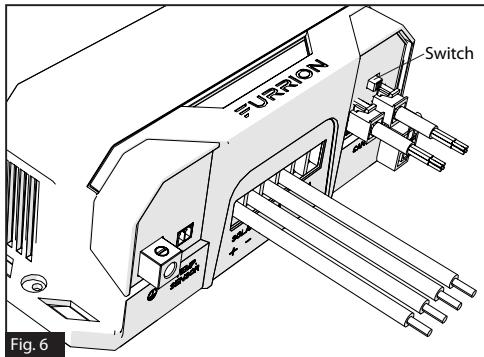

Fig. 6
6. Turn on the terminal resistance switch if the MPPT is the last device on the RV-C bus, otherwise leave it in the off position. (Figure 6)